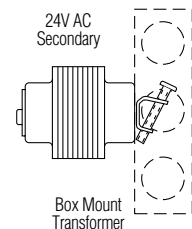

Figure 7
**Box Mount Transformer** (see figure 7). This type of transformer is designed to be mounted on an 110 VAC supply electrical junction box ("J" box should be mounted inside chase wall or above ceiling). Run wires from secondary side of transformer to control box enclosure. To avoid permanent damage to the transformer, sensor, or solenoid valve, do not supply power to primary side of transformer until all wiring has been completed.